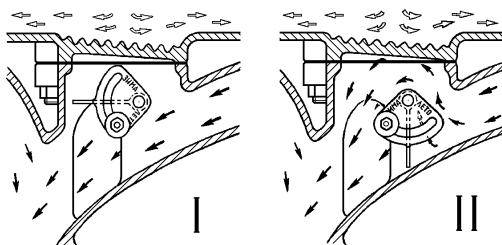

Fig. 30. Manifold heat control valve:
**Inlet manifold.** During seasonal maintenance, set the manifold heat-control valve (Fig. 30) to the position corresponding to the coming season of the year.